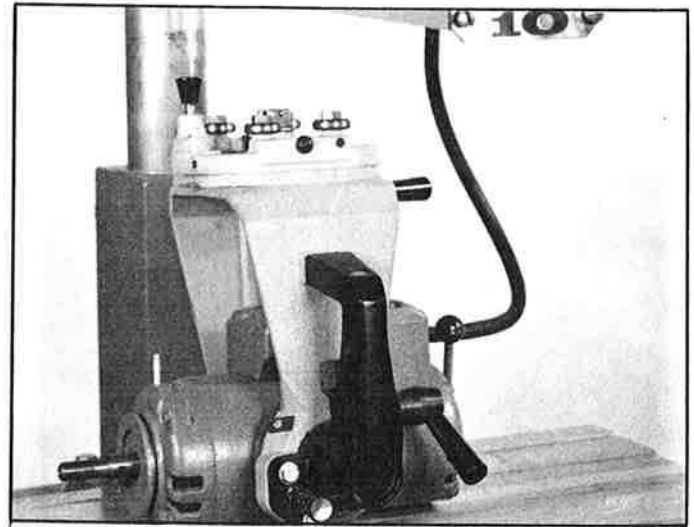

Fig. 6
1. Remove the packing material from around the motor, and place the motor on a board as shown in Fig. 6.